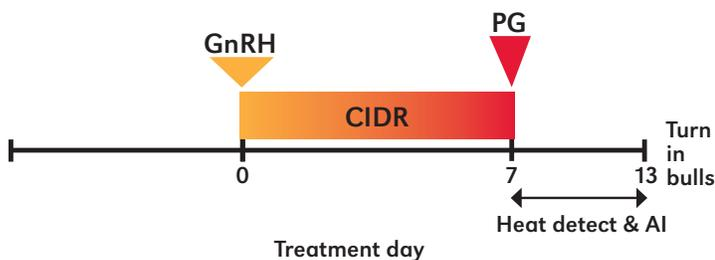

Figure 13: Select Synch + CIDR with HD.
**Select Synch + CIDR with HD** (Figure 13). As its name implies, the Select Synch with CIDR protocol is very similar to the Select Synch protocol with the additional use of a CIDR. Cows are injected with GnRH and receive a CIDR on day 0. On day 7, the CIDR is removed, and all the cows receive an injection of prostaglandin. Cows are monitored for estrus from day 7 until day 13 and are inseminated 12 hours after standing estrus is observed.